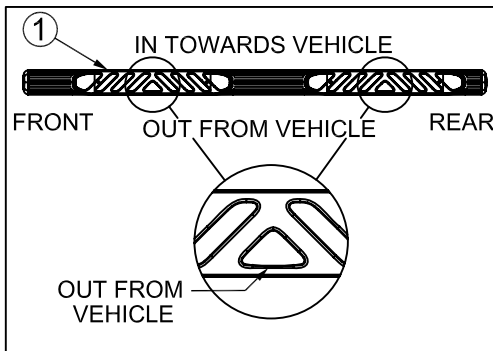

Fig. 3
d.) Secure with two (2) M8 nuts, but do not fully tighten.
a.) Position step rail on brackets with the mounting holes on the tube aligned with the mounting holes on the brace. Make sure the tube is oriented as shown in Fig. 3. The bottom edge of the triangle in the step pad faces away from the vehicle.
b.) Secure step rail to each bracket with two (2) M6 bolts, but do not fully tighten.